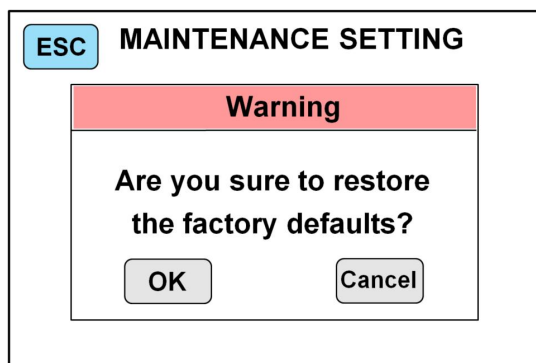

Figure 53
2) Touch the “**2. Factory setting**” key to enter the interface of restoring factory setting, as shown in Figure 53 below: